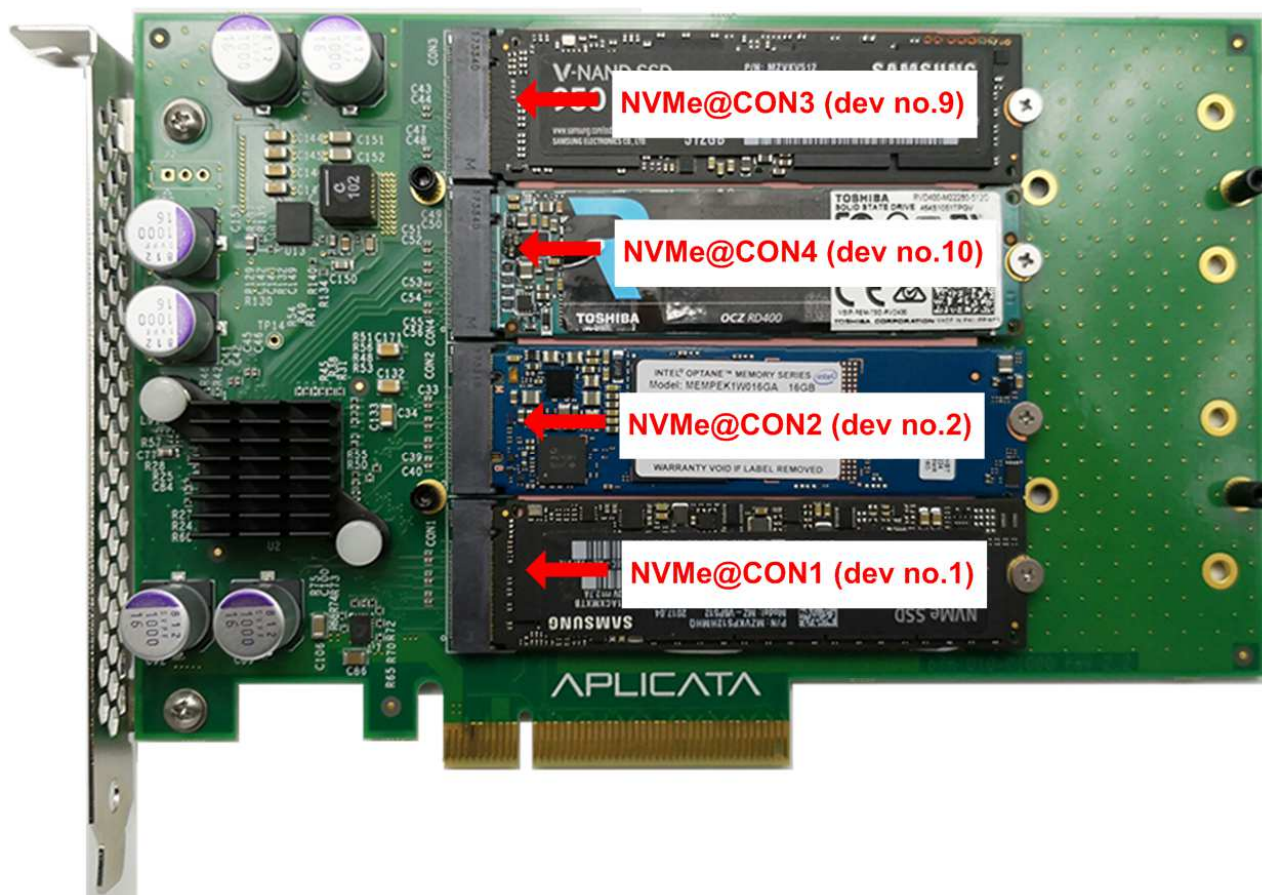

Figure 2-3 Connect NVMe SSD to PCIe switch
- 4) Connect at least 1 NVMe SSD to PCIe switch card. In the example, four SSDs are connected to show different device number usage from different connector. As shown in Figure 2-3, each connector is defined as different device number depending on PCIe switch schematic. The details of device number for each M.2 connector on reference board are shown in Figure 2-3. After that, install heat sink to cool down NVMe SSD on PCIe switch card.
- (1) "Waiting PCIe Linkup" is displayed.
- (2) User needs to press S1 on FMC-to-PCIe card (PCIe RESET) to reset PCIe switch and SSD.
- (3) "PCIe GenX Device Detect" is displayed.
- (4) User inputs '1' and selects device number to test. Figure 2-3 shows device number position of each M.2 slot on PCIe switch card.
- (5) "Complete PCIe initialization" is displayed when IP completes the initialization sequence.
- (6) LED[1] changes to OFF and Main menu is displayed to receive command from user.